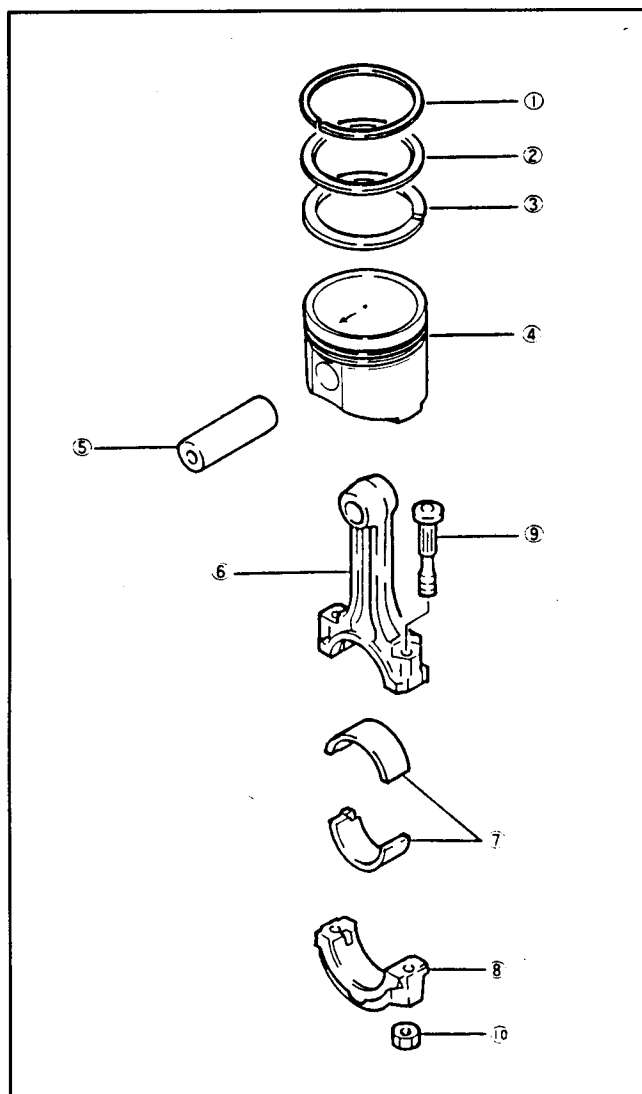

Figure 83
5. Remove the connecting rod end caps and bearings (Fig 83). Keep these parts in cylinder number order so they can be reinstalled in the same cylinder. Use a wood block to push the pistons and connecting rods up out from the bottom of the block. Take care not to scratch the crankshaft pin and cylinder.